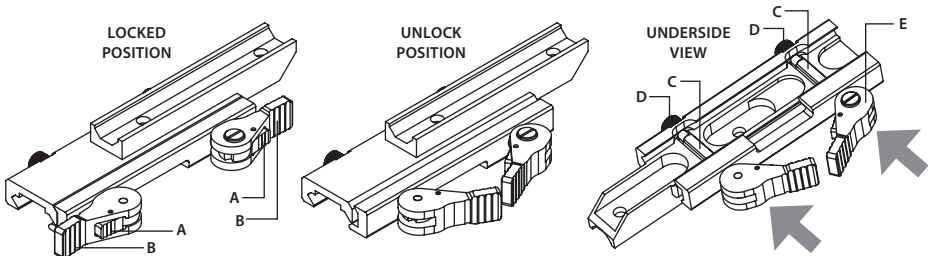

FIGURE 3-2. DRONE PRO MOUNT
1. Unlock the clamping device of the Drone PRO mount by pushing down on the lever holders (A, Figure 3-2) and unlocking the levers (B, Figure 3-2).
2. Install the Drone PRO on the Picatinny/ Weaver rail so that the stops (C, see Figure 3-2) slide into the transverse slots on the rail.
3. Affix the Drone PRO to the rail by locking the levers (B, Figure 3-2).
2. With the clamping device unlocked (as shown in Figure 3-2), push the cam (E) towards the arrow, which will cause the nut (D) to slide out of its hole.
3. To tighten/ loosen the clamping device, push down on the cam (E) and turn the nut (D) CW/ CCW respectively, in one-two increments (see note below). Much like when the cam (E) is released, backward-moving springs will cause the nut (D) to slide back into its hole.